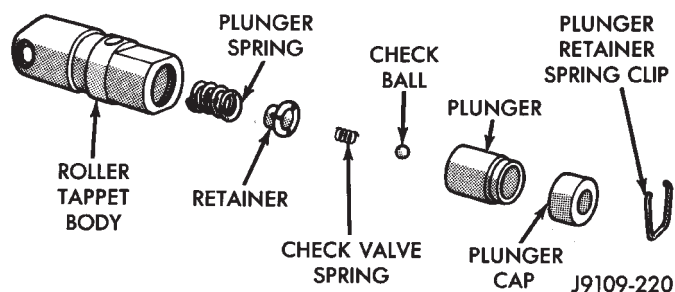

Fig. 22 Hydraulic Tappet Assembly
- (1) Pry out plunger retainer spring clip (Fig. 22).
- (2) Clean varnish deposits from inside of tappet body above plunger cap.
- (3) Invert tappet body and remove plunger cap, plunger, check valve, check valve spring, check valve retainer and plunger spring (Fig. 22). Check valve could be flat or ball.
- (1) Clean all tappet parts in a solvent that will remove all varnish and carbon.
- (2) Replace tappets that are unfit for further service with new assemblies.
- (3) If plunger shows signs of scoring or wear, install a new tappet assembly. If valve is pitted, or valve seat on end of plunger is prevented from seating, install a new tappet assembly.
- (4) Assemble tappets (Fig. 22).